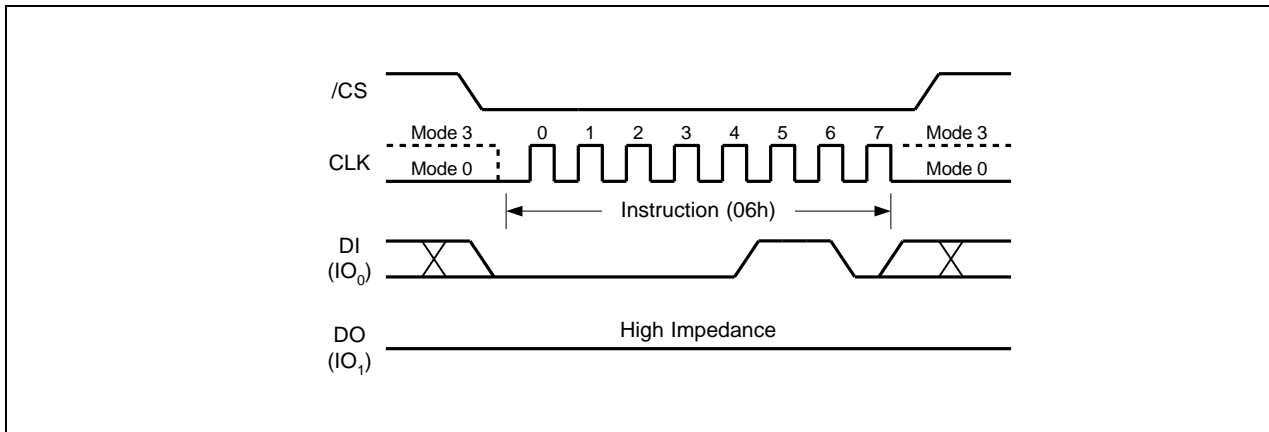

Figure 5. Write Enable Instruction for SPI Mode
Instructions vary in length from a single byte to several bytes and may be followed by address bytes, data bytes, dummy bytes (don't care), and in some cases, a combination. Instructions are completed with the rising edge of edge /CS. Clock relative timing diagrams for each instruction are included in Figures 5 through 57. All read instructions can be completed after any clocked bit. However, all instructions that Write, Program or Erase must complete on a byte boundary (/CS driven high after a full 8-bits have been clocked) otherwise the instruction will be ignored. This feature further protects the device from inadvertent writes. Additionally, while the memory is being programmed or erased, or when the Status Register is being written, all instructions except for Read Status Register will be ignored until the program or erase cycle has completed.
The Write Enable instruction (Figure 5) sets the Write Enable Latch (WEL) bit in the Status Register to a 1. The WEL bit must be set prior to every Page Program, Quad Page Program, Sector Erase, Block Erase, Chip Erase, Write Status Register and Erase/Program Security Registers instruction. The Write Enable instruction is entered by driving $\overline{\text{CS}}$ low, shifting the instruction code "06h" into the Data Input (DI) pin on the rising edge of CLK, and then driving $\overline{\text{CS}}$ high.